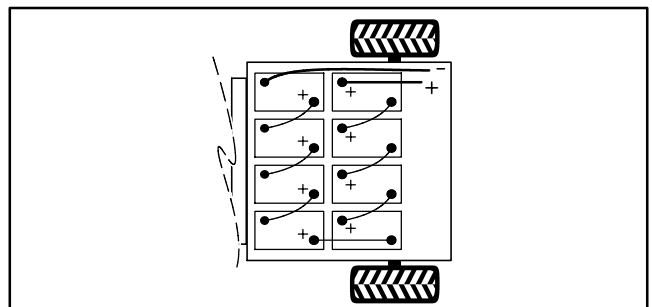

Figure 44
3. Using case loops on battery tops as lifting points, set batteries on the battery supports with battery posts properly orientated (Fig. 44). Make sure that battery rods are positioned to allow installation of retainers.